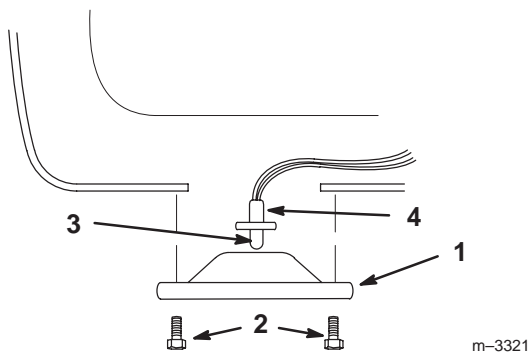

Figure 53
2. Remove the two screws securing the lens (Fig. 53).
3. Pull the lens out far enough so you can remove the bulb socket (Fig. 53).
4. Pull the bulb from the socket (Fig. 53).
1. Push a new bulb into the socket (Fig. 53).
2. Install the bulb socket in the lens and push the lens into the tractor (Fig. 53).
3. Secure the lens with the two screws removed previously (Fig. 53).